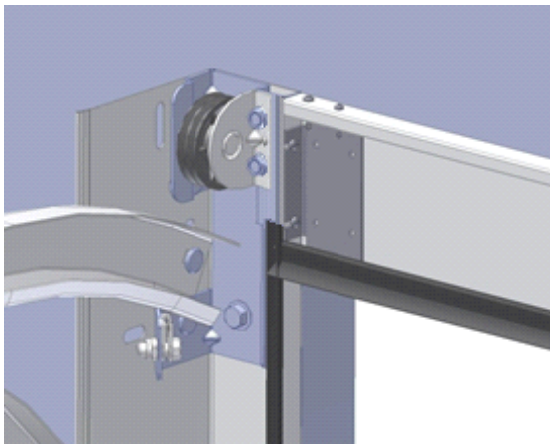

Figure 15: Top pulley assembled
- 8** You can now assemble the reversible top pulleys (ref SG206T0) onto both top brackets using screws SG041P0. Make sure they are properly placed (strictly vertical; the shaft passing through the oblong hole of the top brackets) (see figures 15 & 16)